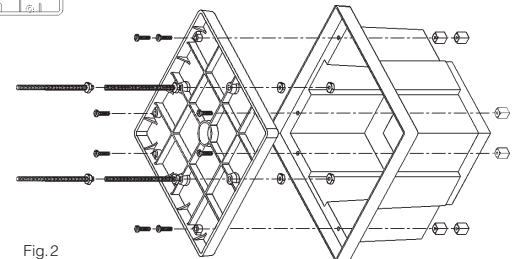

Fig. 2
2. Attach the CPC housing to the support plate as shown in Fig. 2 using the provided square nuts.